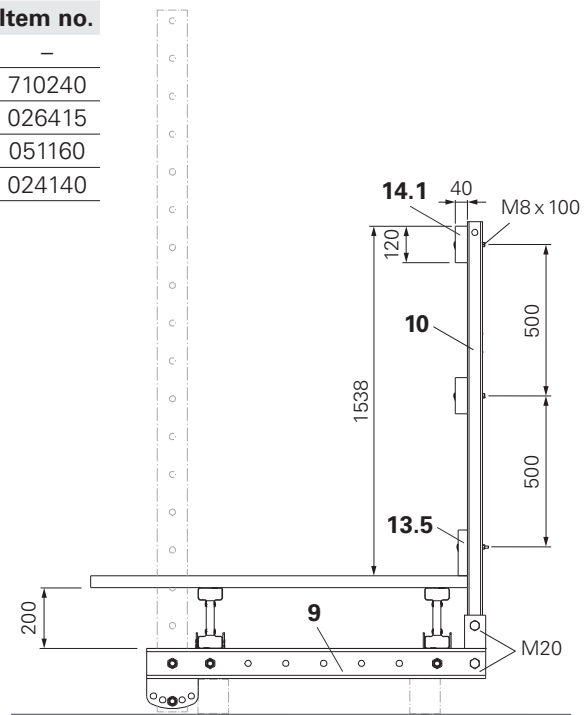

Fig. A1.20
1. Loosen the 2 Bolts and Nuts M20 on the holder of the Platform Beam (9) and remove.
2. Fix Guardrail Post (10) to the Platform Beam (9) using the 2x Bolts and Nuts M20. (Fig. A1.20)
1. Position board (13.5) on the Guardrail Post (10).
- (Fig. A1.20)
(Fig. A1.20 + A1.21)
(Fig. A1.20)